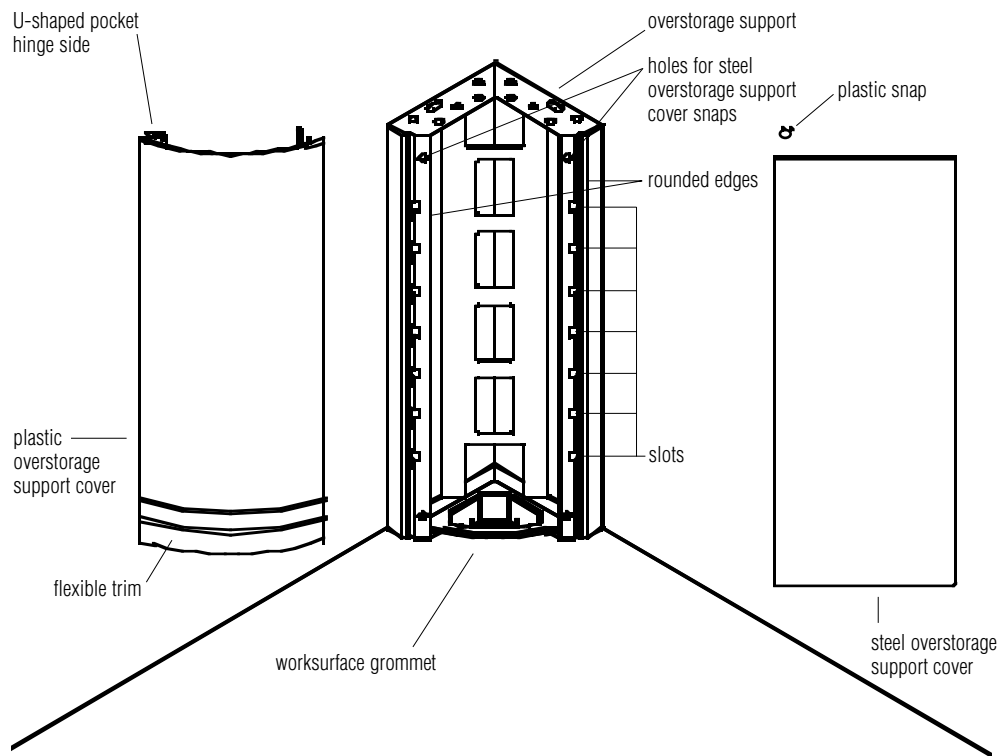

Figure 1
1. Align the U-shaped pocket on the inside of the cover with the rounded edge on the open face of the overstorage support. Push firmly into place along full length until cover snaps into position. Door will now snap closed against opposite rounded edge. Adjust as necessary (Figure 1).